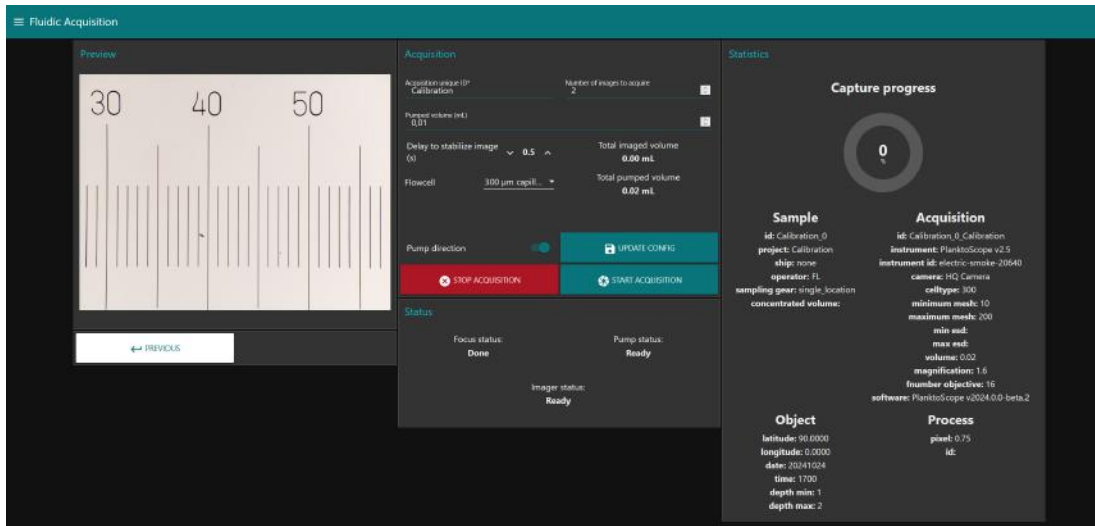

Figure 4: Here two images are acquired
2. Take 1 or 2 images in "Fluidic Acquisition" (pumped volume does not matter, Fig.4). You should only use acquired images to measure the real size of the pixels, and not the preview image as it will give you wrong results.